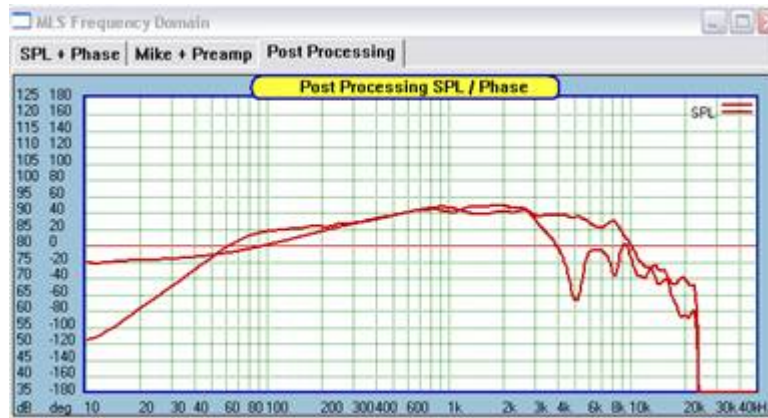

Figure 47. Add -17dB to Buffer 2.
- Next the level of the near field SPL data must be reduced to match that of the far field using the *Add X dB to SPL in Buffer Y*. The far field level is the reference. This must be done with the use of judgment over a frequency range where the far and near field data have the same contour. Figure 47 shows the result of adding -17dB to Buffer 2.
- Stereo 2 x 2 Way:** This option loads a default 2 channel stereo 2-way system as shown in Figure 47.